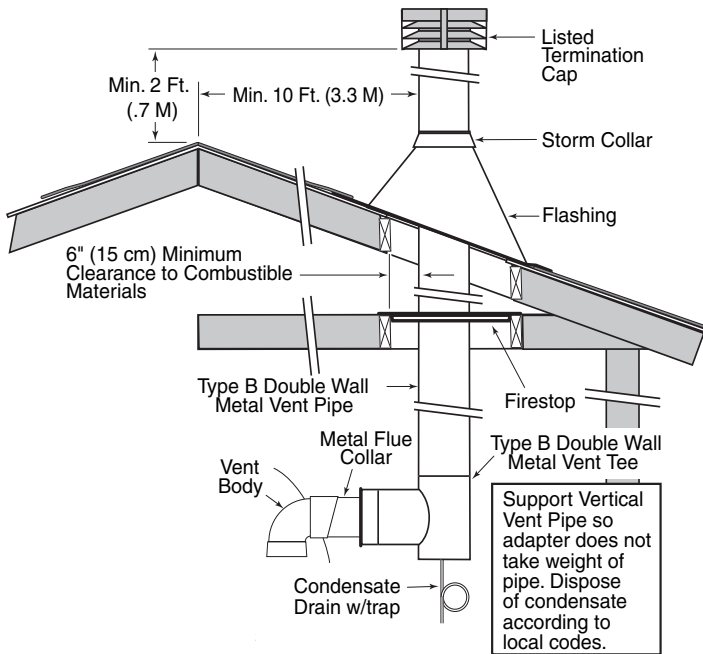

FIGURE 12A: Typical Metal Vent Pipe Installation-Canada (Vertical – Negative Pressure)
- Vent Termination – Vertical (See Figures 12A and 12B, page 13, for height of vent termination above the roof. See Table 7, Page 15, for Listed terminations.) Use a Listed vent terminal specified by local and national codes and your manufacturer’s instructions. A roof termination must be vertical. In Canada, the Vent Cap location shall have a minimum clearance of 4 feet (1.2M) horizontally from electric meters, gas meters, regulators, and relief openings.